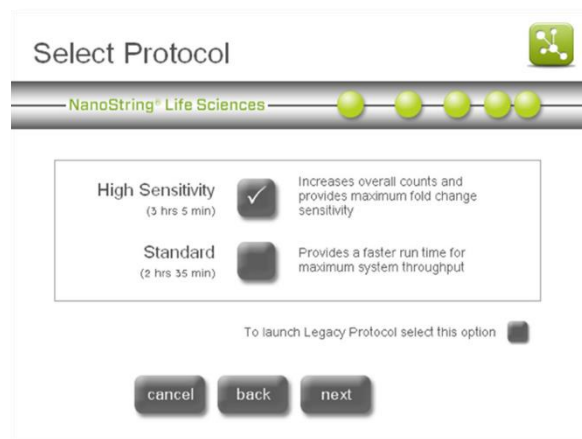

Figure 14: The 'Select Protocol' screen.
2. The 'Select Protocol' screen will appear (**Figure 14**). Select one of three protocols for processing samples: